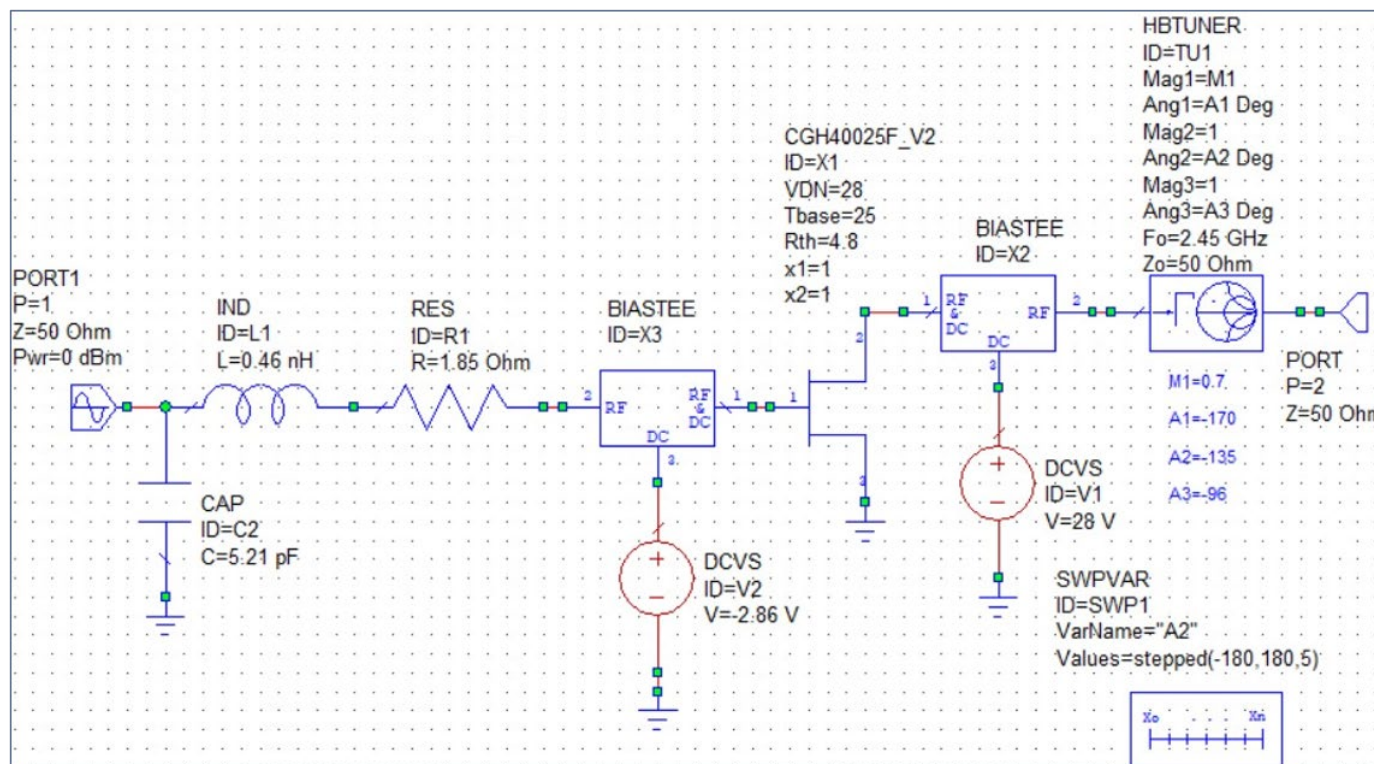

Figure 11
12. In the schematic of Figure 11, where the output tuner is with values for Class B, add a sweeping variable for the 2nd harmonic angle in the tuner (Ang2) to be swept across the outskirts of the Smith Chart with 5-degree steps. The magnitude should be 1, which means full reflection and simulate.